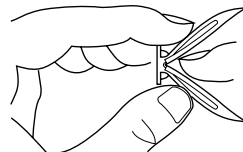

Figure 6 - Folding Anchor
2. Fold wall anchor as shown in Figure 6.